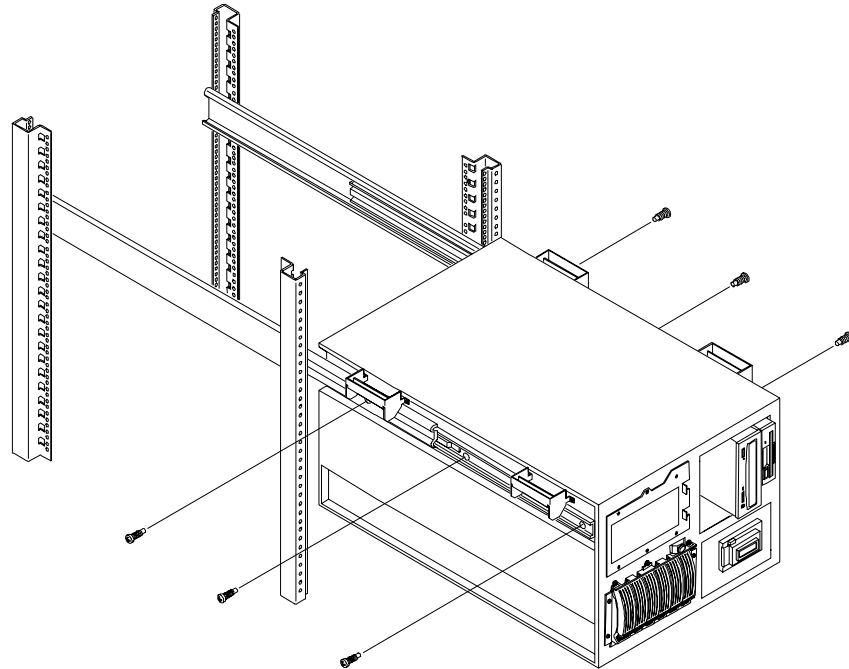

Figure 8-10. Securing the NetServer to the Slides
7. Rest the NetServer handles on the slides and then line up the mounting holes in the NetServer chassis with the screw holes in the slides (see Figure 8-10).